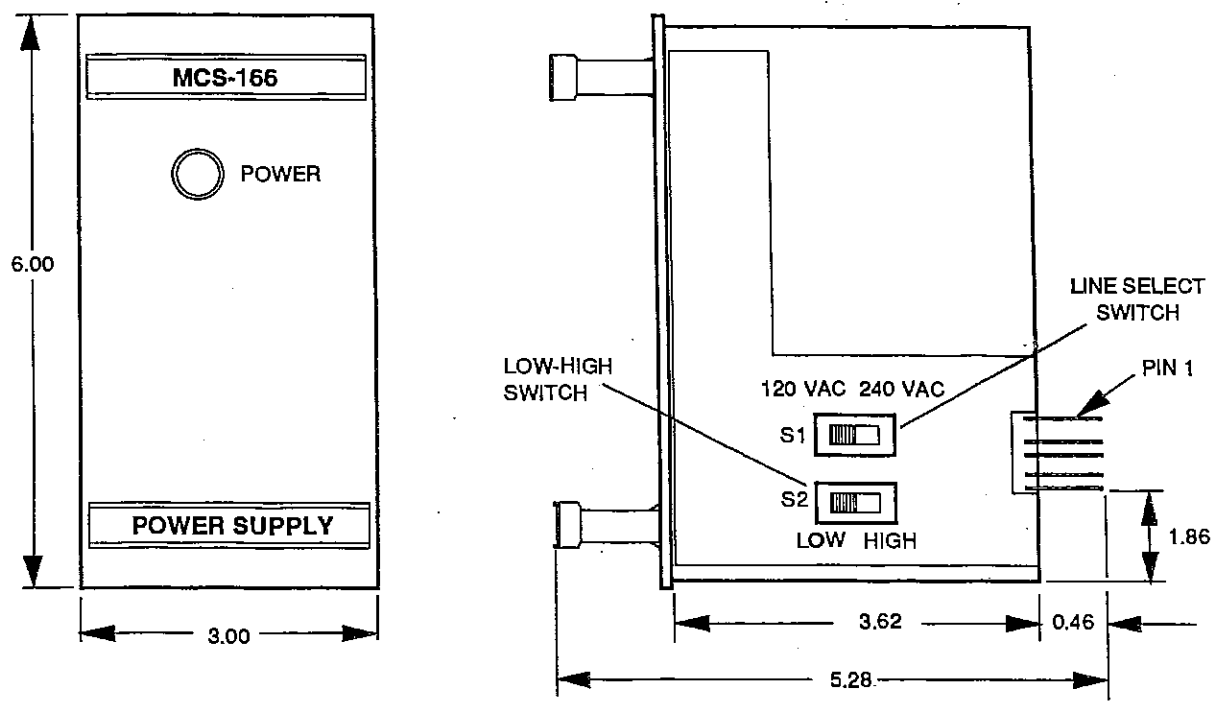

Figure 14 Control Adjustment Locations, MCS-166/MCS204
Refer to Figure 14, page 19, for exact location of adjustments and indicators.
- Figure 14 ..... Control adjustment locations, MCS-166/MCS-204